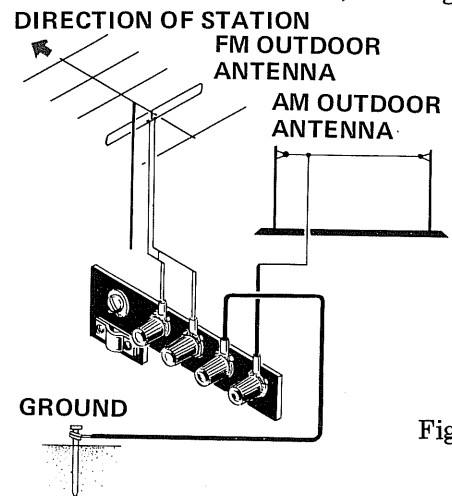

Fig. 5
- If orientation of the T-type antenna does not eliminate background noise, connect an outdoor antenna to the antenna terminals as shown in Fig. 5. In lieu of a special antenna, a combination FM/TV antenna may be used.
as shown in Fig. 5. Special construction is not required: Vinyl-insulated wire may be stretched between two masts or other supports.